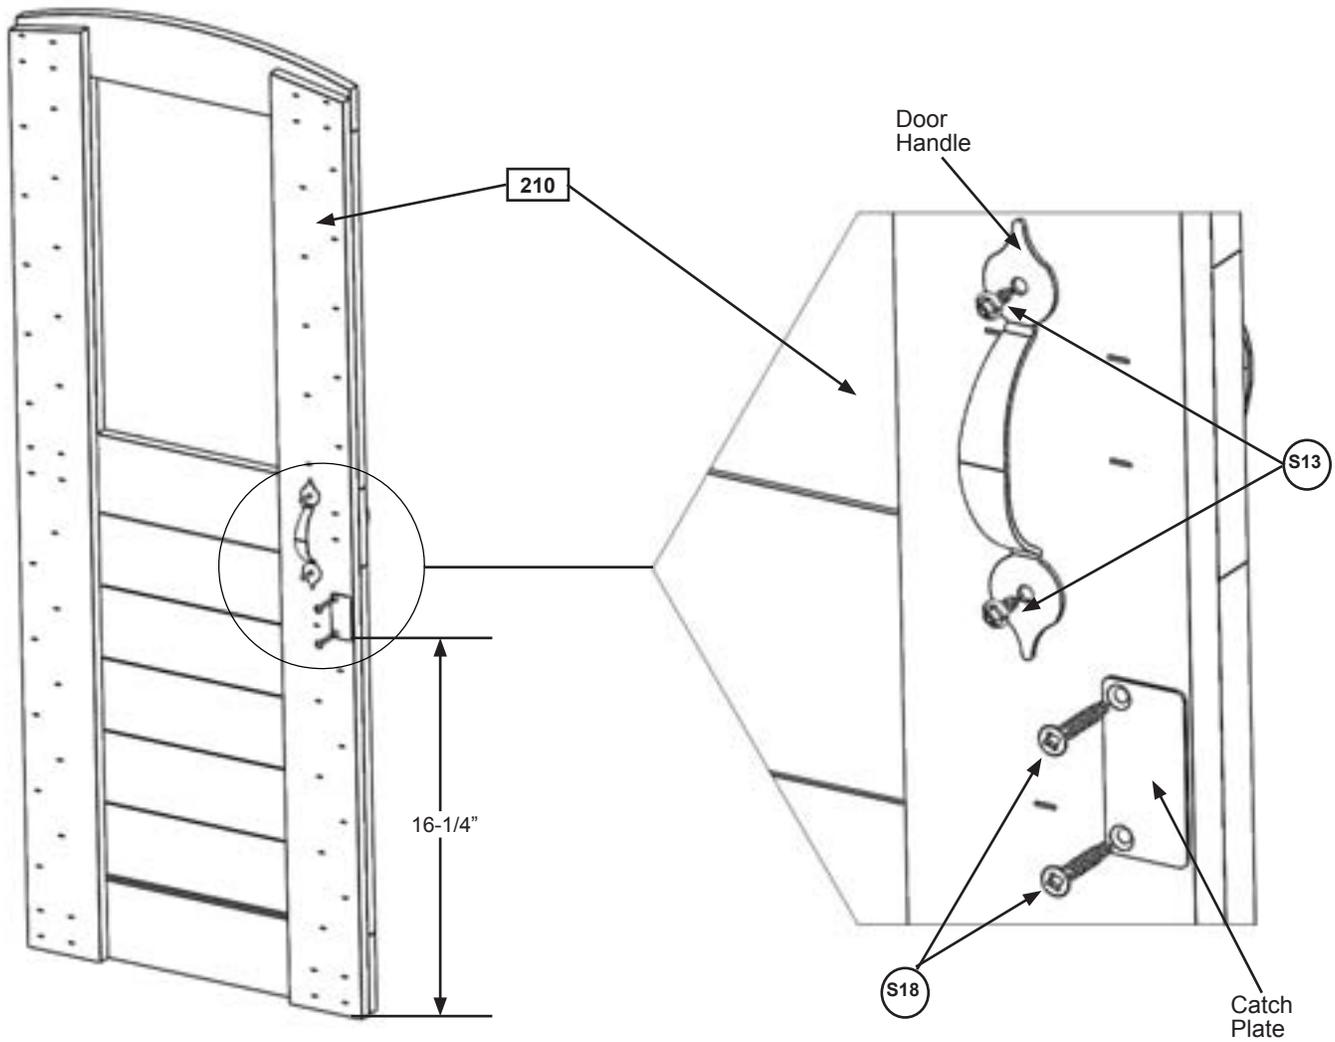

Fig. 21.1
A: On the inside of (210) Door Panel Green, measure 16-1/4" up from the bottom and attach Catch Plate using 2 (S18) #6 x 1" Wood Screws. (fig. 21.1 and 21.2)
B: On the inside of (210) Door Panel Green above the Catch Plate attach 1 Door Handle using 2 (S13) #6 x 5/8" Pan Screws. (fig. 21.1 and 21.2)